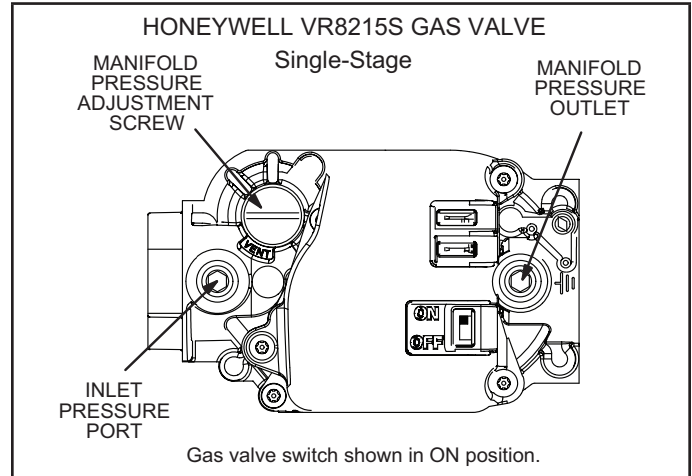
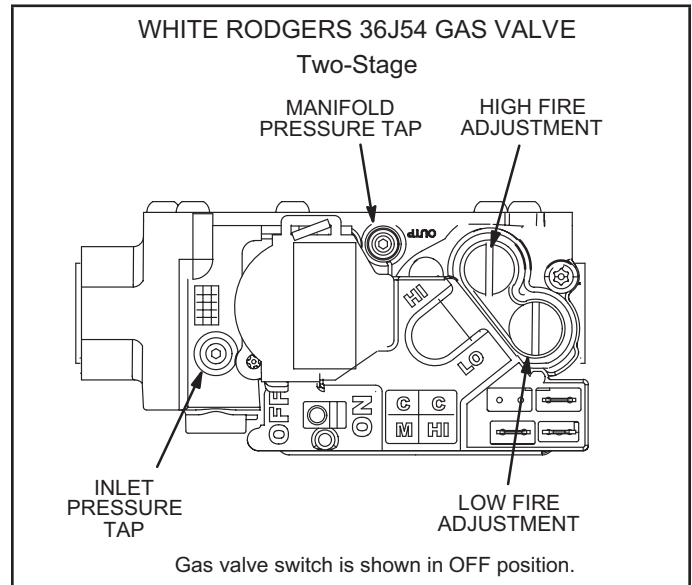

FIGURE 25
FIGURE 26
#### Gas Valve Operation (figure 25 and 26)
- 5 - Move gas valve switch to **OFF**. See FIGURE 25 or FIGURE 26.
- 6 - Wait five (5) minutes to clear out any gas. If you then smell gas, **STOP!** Immediately call your gas supplier from a neighbor's phone. Follow the gas supplier's instructions. If you do not smell gas, go to the next step.
- 7 - Move gas valve switch to **ON**. See FIGURE 25 or FIGURE 26.